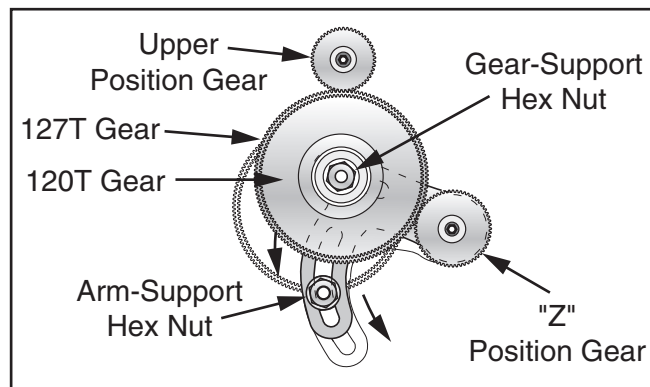

Figure 77. End gear placement.
- Loosen **120T/127T** gear support hex nut and slide the middle gear away from the lower "Z" position gear, as shown in **Figure 77**.